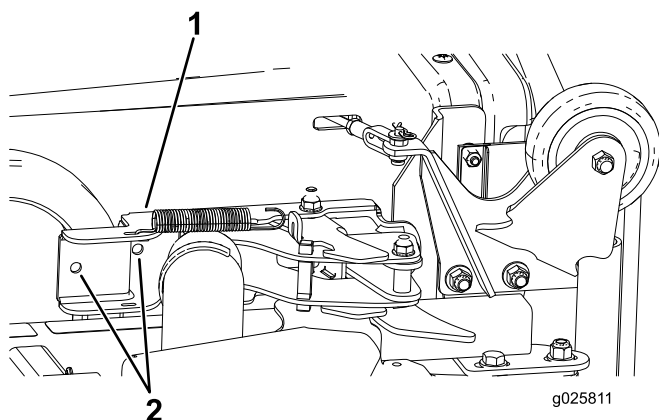

Figure 9
18. Locate and drill two 8.4 mm (11/32 inch) diameter holes in the hopper for the hopper-retainer plate (Figure 9).